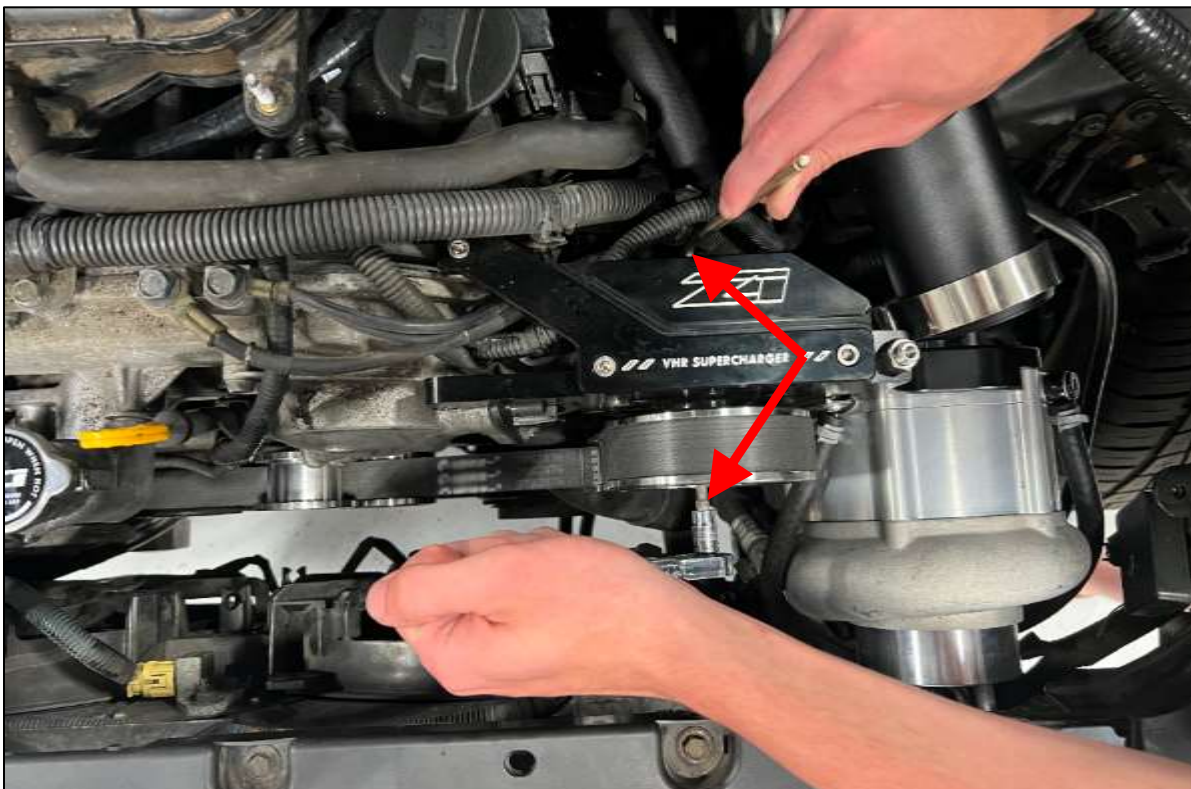

Figure 25
14. Using (2) two 5mm Allen/Hex keys, one on the rear pulley and one on the front, torque down the (3) three Socket Head Bolts on both pulleys on each side of the bracket. **DO NOT** spin the pulleys. Torque bolts to **9 ft-lbs.** Make sure all (3) three bolts on **BOTH** sides are torqued. *Figure 25.*